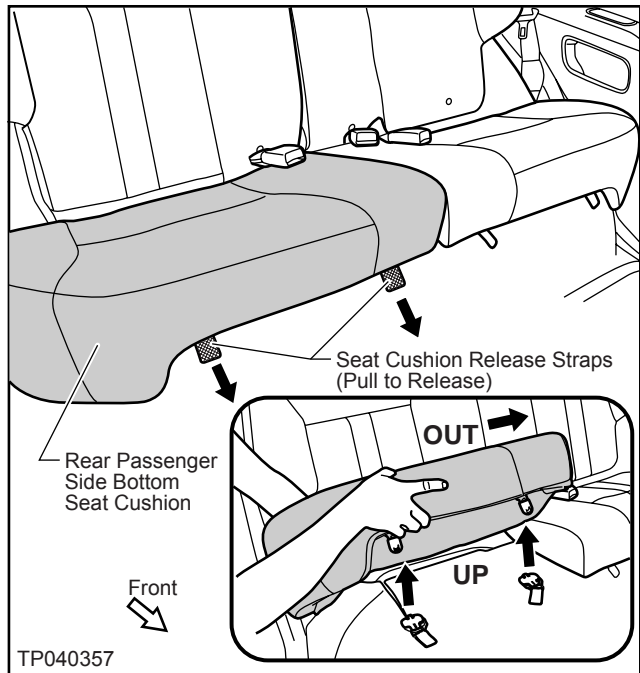

Figure 23
- a. Pull on the Seat Cushion Release Straps while lifting UP on the front edge of the Seat Cushion (see Figure 23).